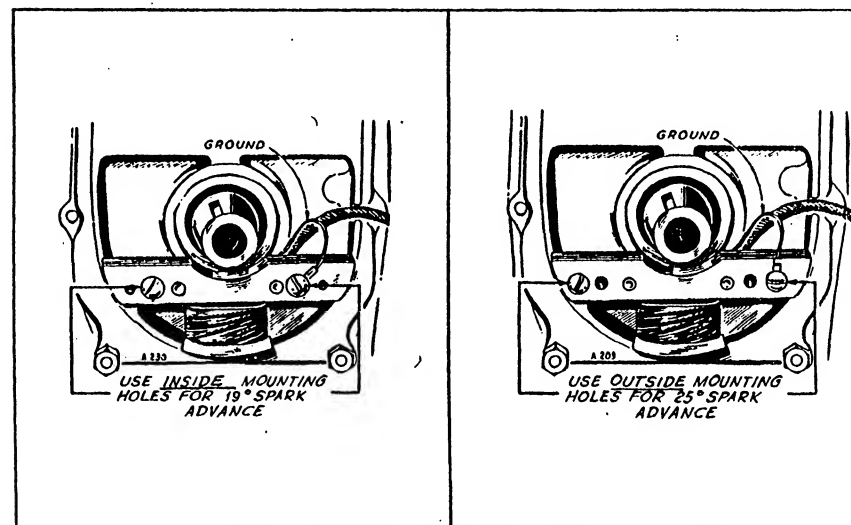

FIG.42- MAGNETO STATOR INSTALLATION
**MAGNETO STATOR INSTALLATION.** - The magneto stator assembly is mounted on the gear cover and the flywheel must be removed to expose it. Fig.42 shows the stator assembly correctly installed on the gear cover. Note that there are inside mounting holes for the stator for a 19° spark advance, the outside holes for a 25° spark advance. Connect the small coil lead to the cable clip terminal as shown. Connect the large lead to the breaker box. Be sure it is held in place by the clip as illustrated.